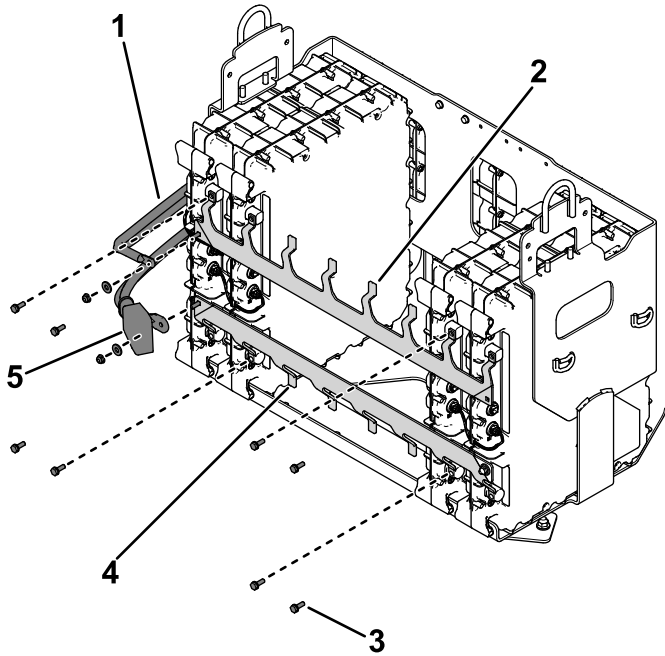

Figure 3
- Remove the bus bars (Figure 3) from the battery compartment.
- A. Use the previously removed bolts to loosely secure the bus bars to the batteries (Figure 3).
- B. Use the previously removed hardware to install the battery cables to the bus bars (Figure 3).
6. Verify that the bus bars are seated properly and torque the bolts that you used to secure the bus bars to the batteries (Figure 3 and Figure 8) to 11 N·m (95 in-lb).